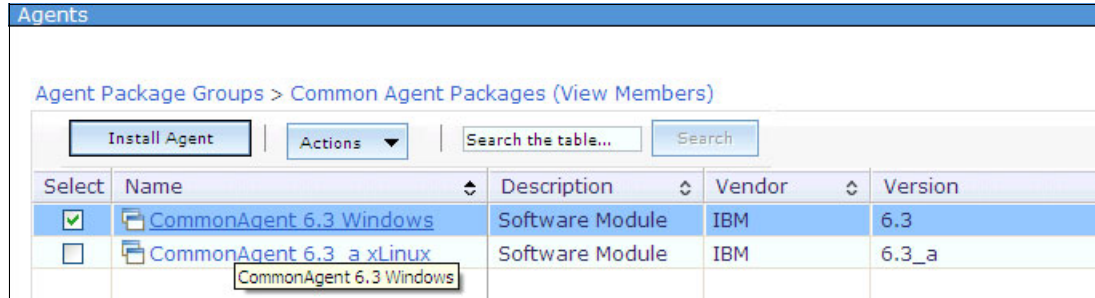

Figure 12-8 Select CommonAgent 6.3 Windows for an installation on Hyper-V
1. Go to **Release Management** as shown in Figure 12-8.